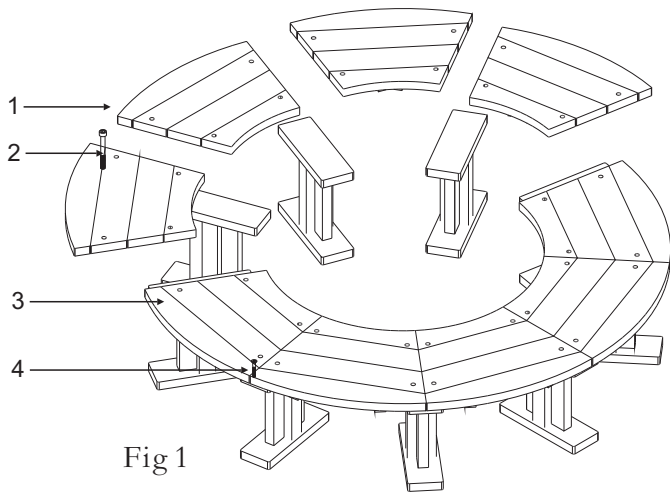

Fig 1
1. Appropriate glass cement is applied to the two bottom corners of groove at the barrel stave. (As shown in Fig 1)
1. The installation position is shown below; the stool is in place at first with the screws untightened. (Fig 1)
1. The barrel is connected to the system cabinet with the three pipes: Water pump connecting pipe, air pump connecting pipe and filter connecting pipe are connected in turn and tighten, the small interface at the water pump connecting pipe is used to connect transparent ozone pipe, and the light wire connector near air pump connecting pipe is connected with the quick coupling of system cabinet and banded by tapes. (Note: Connecting pipes are equipped with gaskets) (Fig 1)